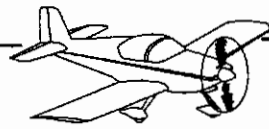

**FIGURE 3: MAKING THE DOOR CATCH**
**Step 3:** Machine countersink the two nutplate holes and air inlet attach holes match-drilled in Step 2 (see Figure 3).
**Step 4:** Bend and crimp the tab as shown in Figure 3.